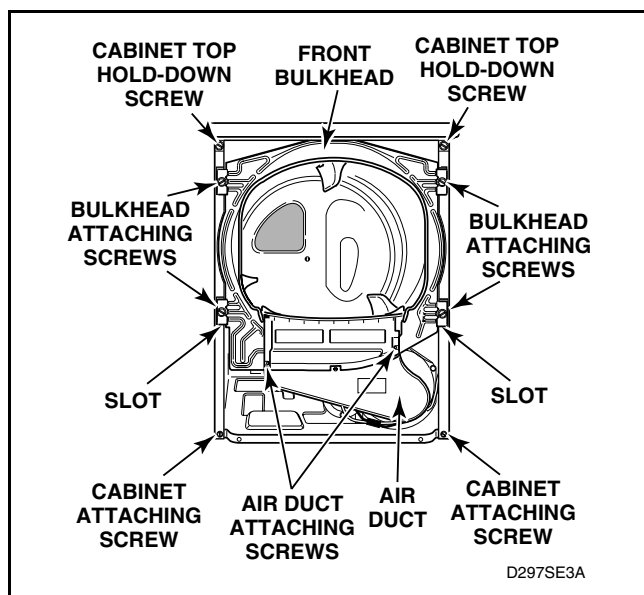

Figure 34
- Remove four screws holding bulkhead to front flange of cabinet and lift complete bulkhead assembly out of slots in cabinet. Refer to *Figure 34*.
- Remove four screws holding bulkhead to front flange of cabinet. Then, lift complete bulkhead assembly out of slots in cabinet. Refer to *Figure 34*.
- Remove four screws holding bulkhead to front flange of cabinet. Then lift complete bulkhead assembly out of slots in cabinet. Refer to *Figure 34*.
- Remove two cabinet top hold-down screws. Refer to *Figure 34*.
- e. Remove two cabinet top hold-down screws. Refer to *Figure 34*.
- h. Remove four screws holding bulkhead to front flange of cabinet. Then, lift complete bulkhead assembly out of slots in cabinet. Refer to *Figure 34*.